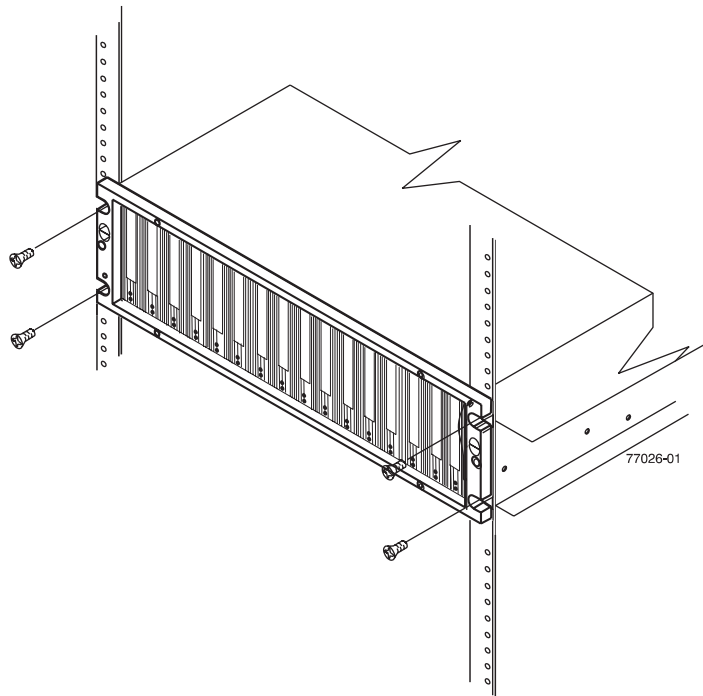

Figure 23. Securing the storage expansion enclosure to the rack
4. Secure the storage expansion enclosure. Figure 23 on page 42 shows how to secure the storage expansion enclosure to the rack.
- c. Secure the front of the storage expansion enclosure using the four M5 screws as shown in Figure 23 on page 42.